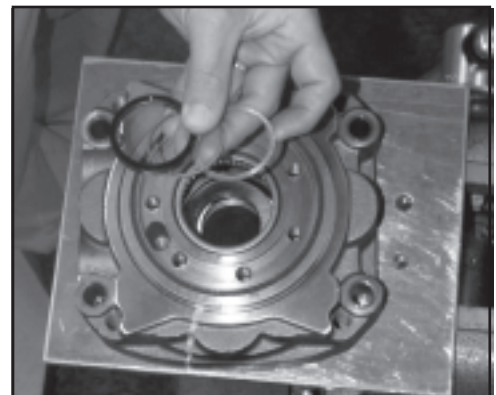

Figure D13
14. Remove lip seal package from rear housing. SEE FIGURE D13